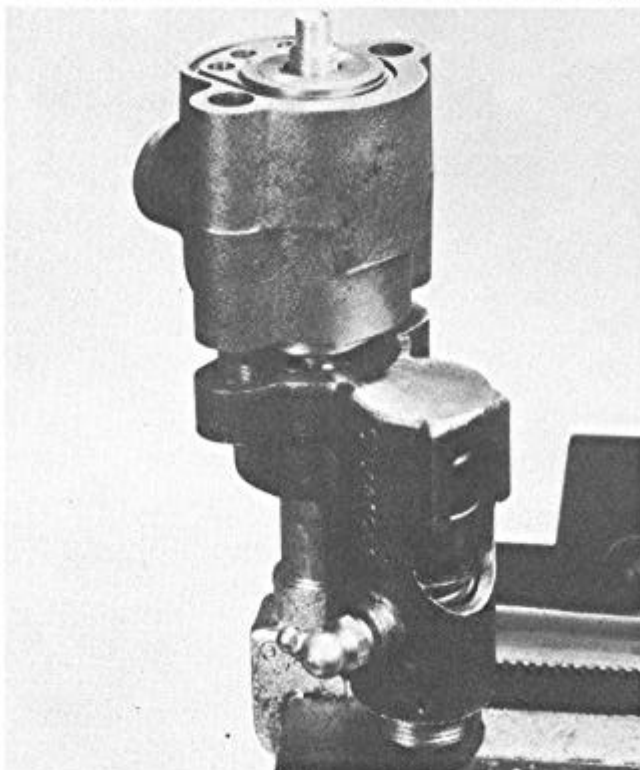

FIGURE 17
6. Slide valve housing and spool assembly carefully over the valve shaft. The three holes in the valve housing pointing up toward threaded end of valve shaft. Figure 17.